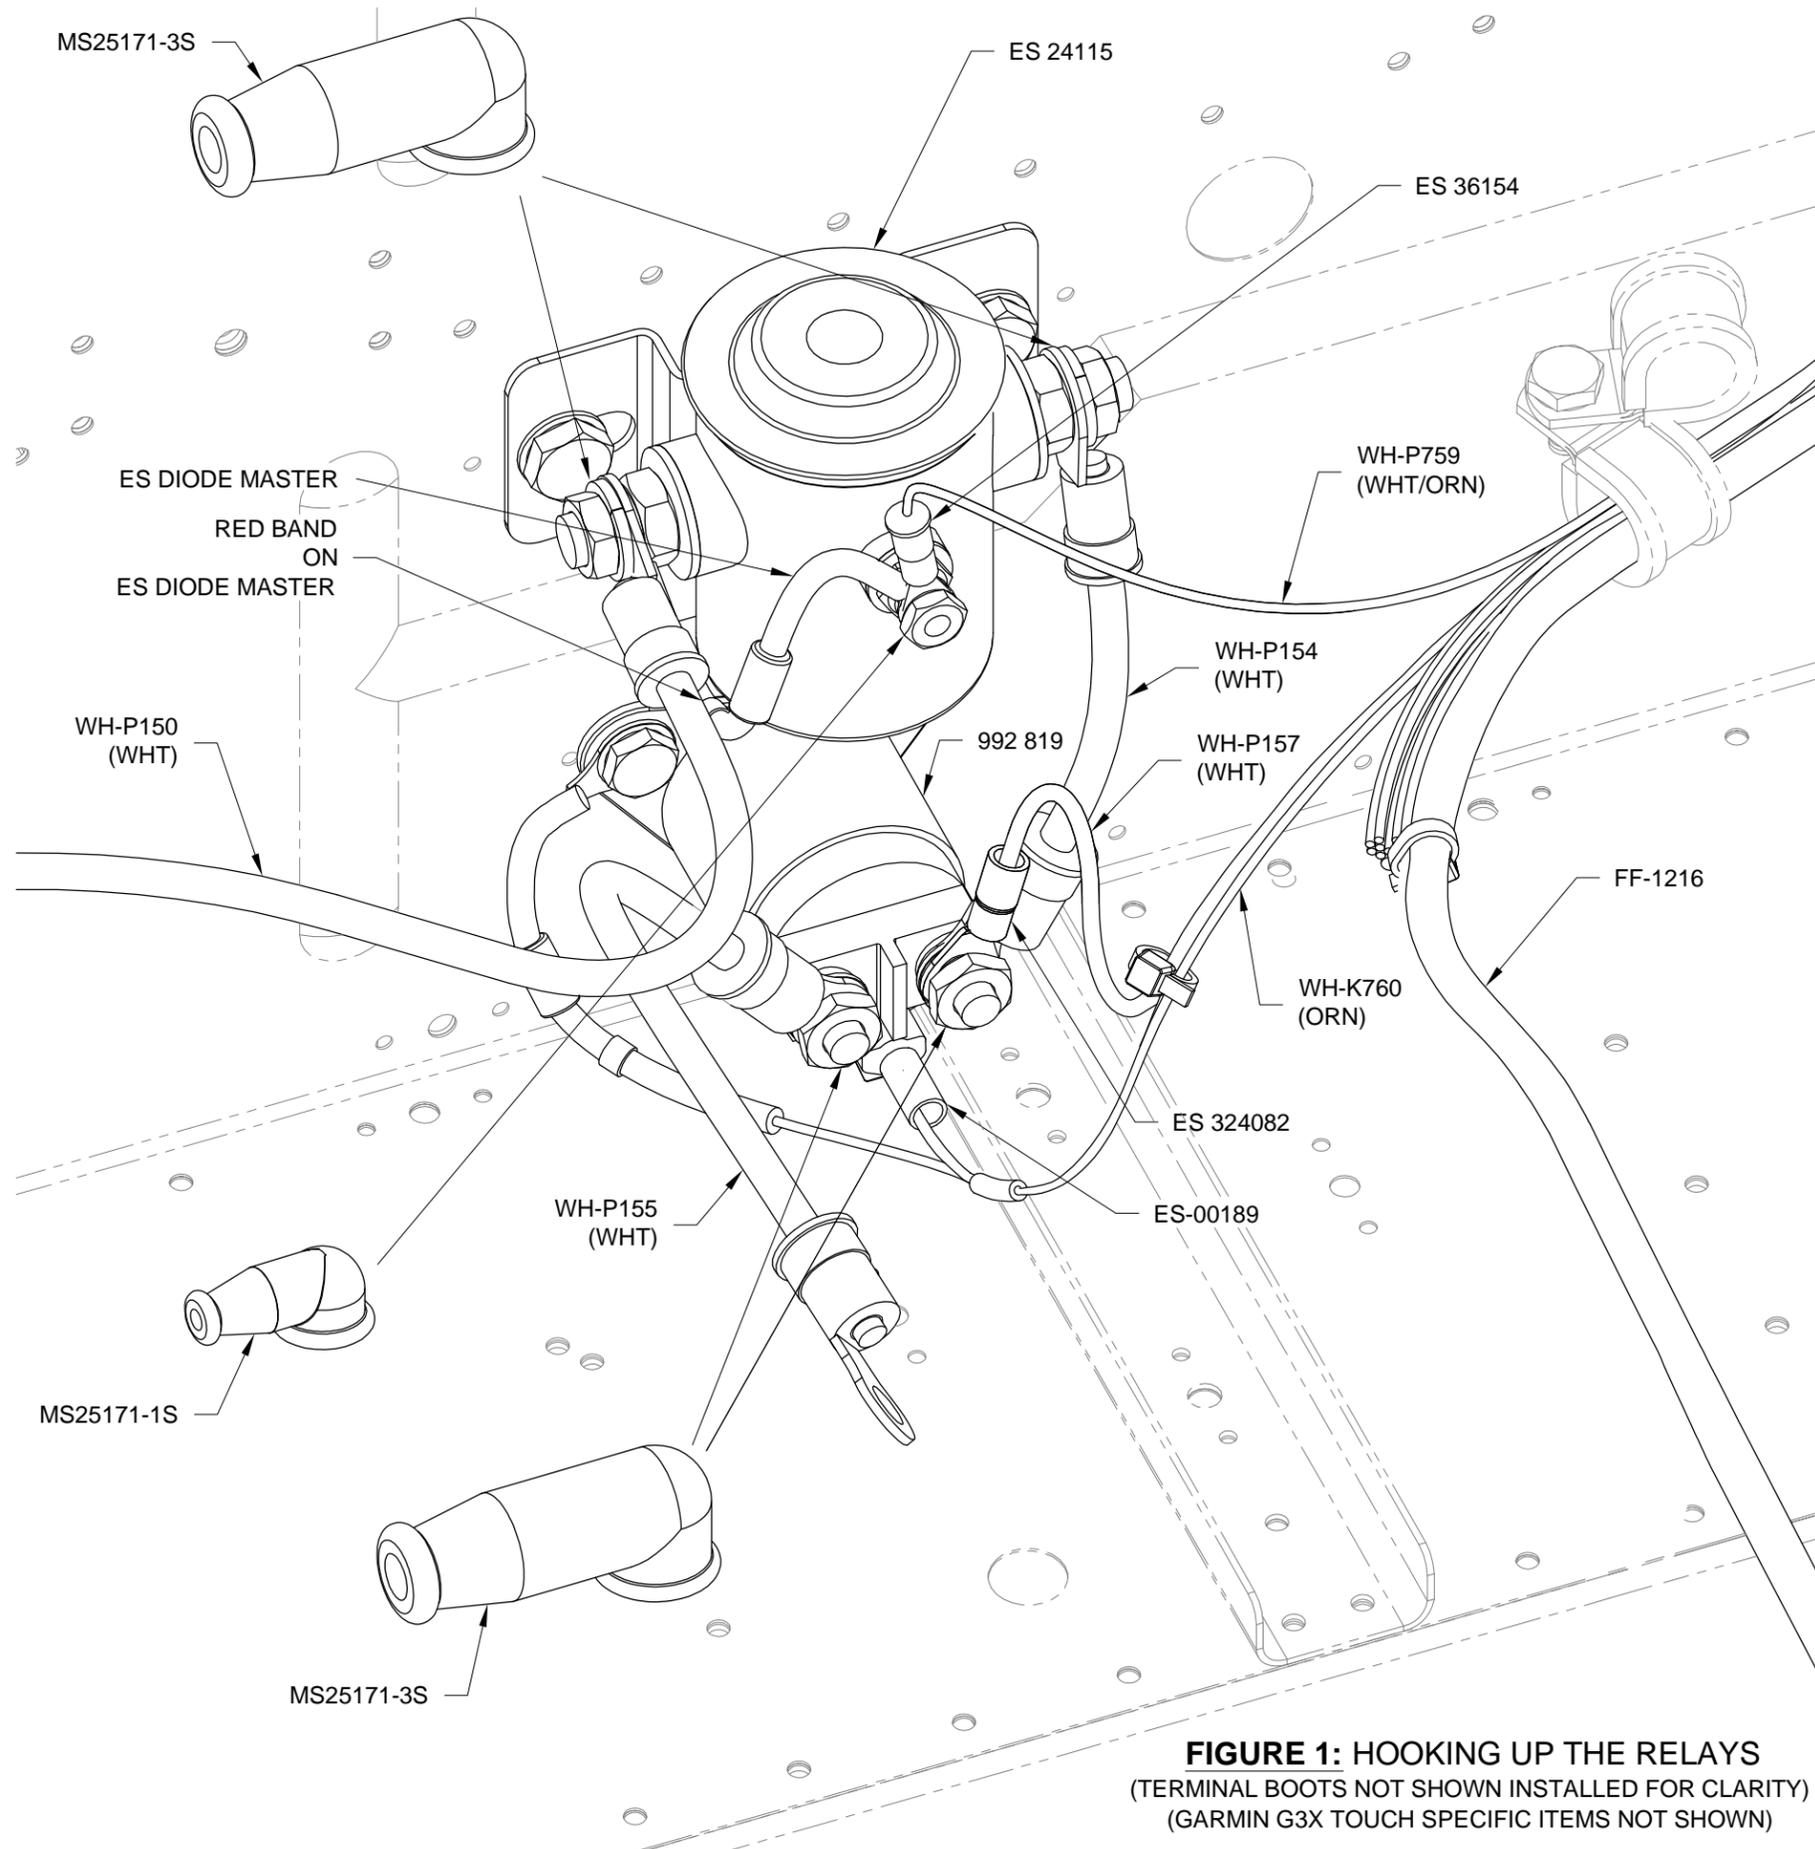

FIGURE 1: HOOKING UP THE RELAYS
Step 1 (Garmin G3X Touch): Locate the ES-00196 ATC Fuse Holder and strip the ends of both wires. Crimp a ring terminal to one of the wires coming from the fuse holder. See Figure 1.
Crimp a butt splice to the end of the other wire coming from the fuse holder. See Figure 1.
Crimp the other end of the butt splice to the end of the WH-P1122 (RED) wire. See Figure 1.